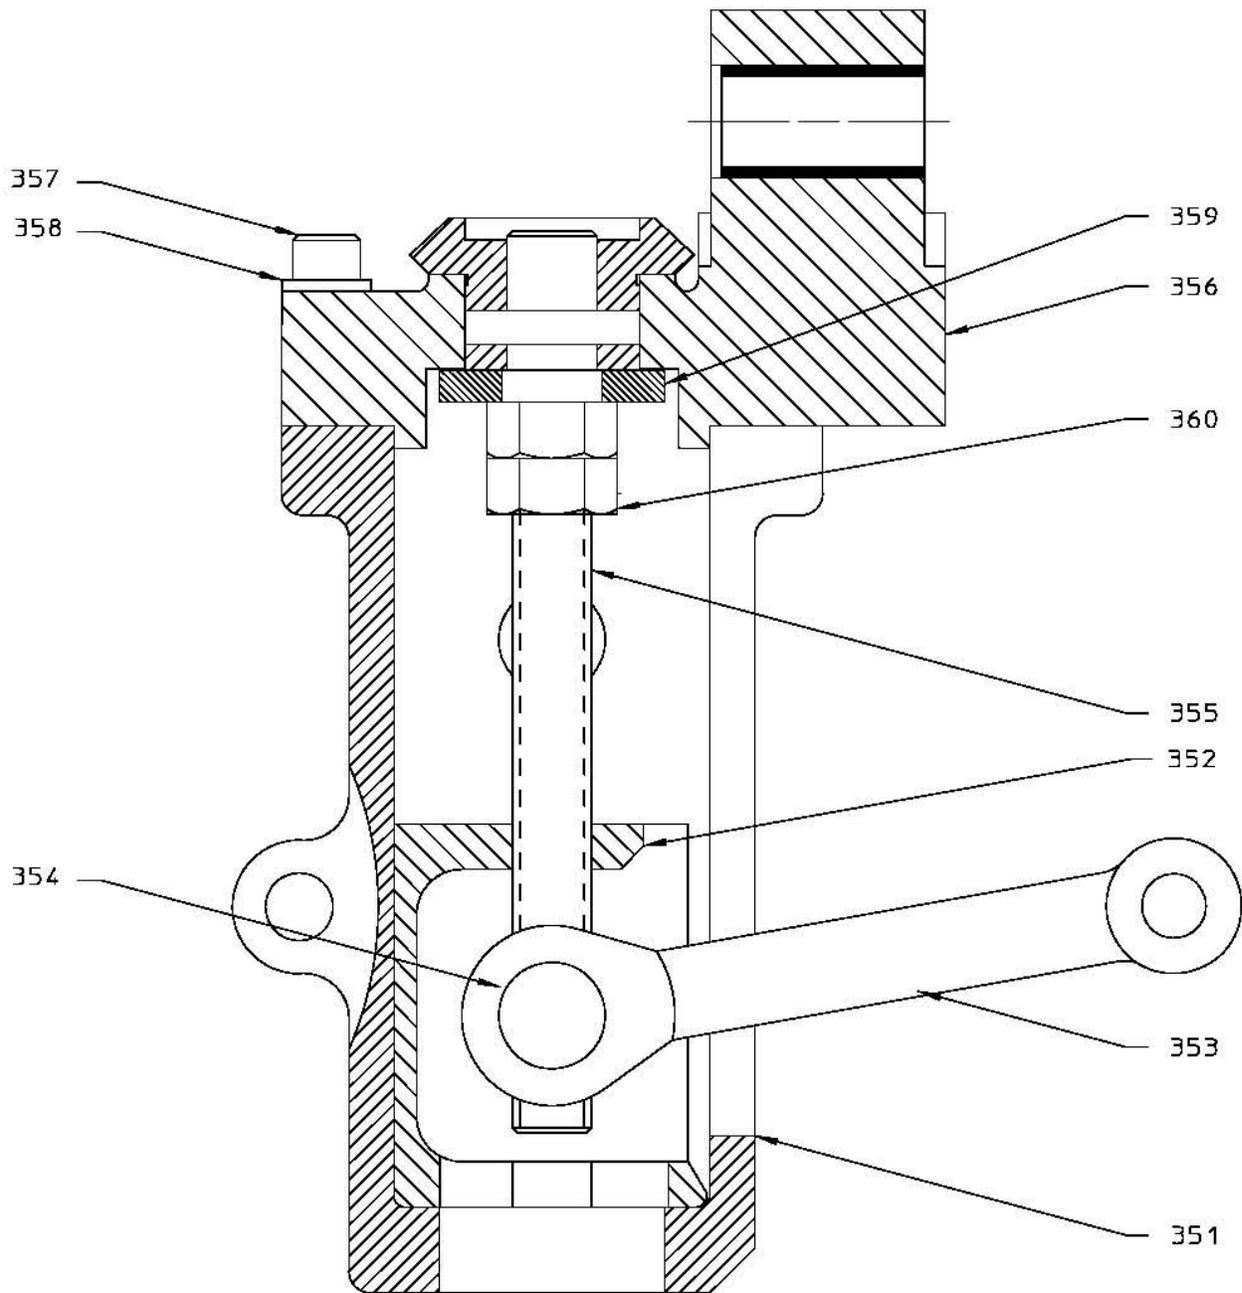

Figure 5
4. Check to see that the block, Item #352, inside the oscillating housing, Item #358 is at the top by turning the miter gear Item #357 clockwise. Refer to Figure 5.
9. With the handwheel fully clockwise, the stroke position indicator should read (000). If not, remove the handwheel assembly from the cover assembly, turn to the (000) setting and replace.
7. Check to see that the block Item #352, inside the oscillating housing, Item #358, is at the top by turning the miter gear, Item #357, clockwise. Ref to Figure 5.
13. With the handwheel fully clockwise, the stroke position indicator should read (000). If not, remove the handwheel assembly from the cover assembly, turn to the (000) setting and replace.
1. The slider block is probably jammed if the stroke cannot be freely adjusted using the handwheel with the override switch pulled out and no pressure load on the pump. To confirm the problem, remove the cover (Item #529A, Figures 8 and 9) over the oscillating housing and observe the position of the front connecting rod, Item #353, where it enters the housing, Item #351 where Figure 5 refers. If the slider block is jammed, the connecting rod will be at the extreme top or bottom position.
Follow these instructions when converting from manual to PULSAmatic stroke adjustment. Numbers in parentheses refer to items as appropriate in Figures 5 through 9, except as noted.
(Reference Figure 5)